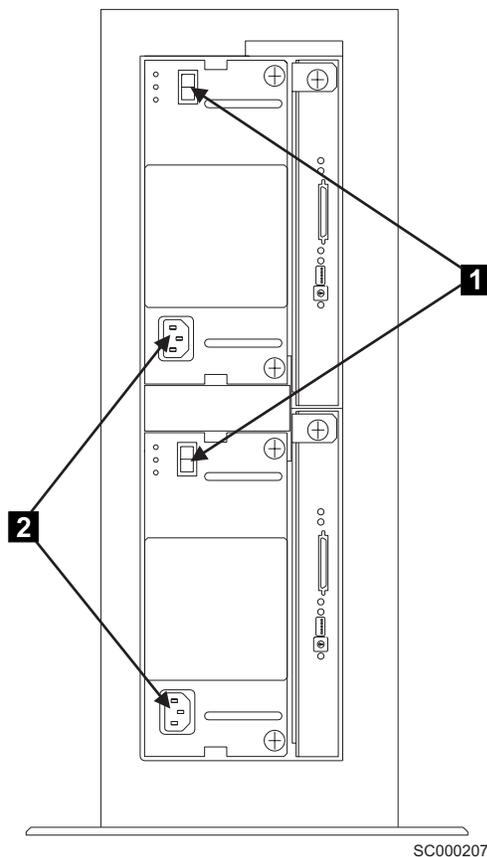

Figure 9. Removing power from a 2104 Model TS4
2. At the back of the 2104 Model TS4, set the dc on/standby switch **1** of each fan-and-power-supply assembly to standby. See Figure 9.
3. Remove the power cables **2** from the electrical power outlet and from the back of the 2104 Model TS4. See Figure 9.